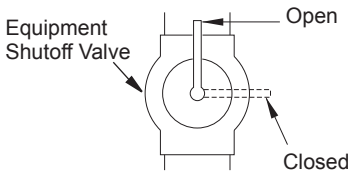

Figure 12 - Equipment Shutoff Valve
1. Close equipment shutoff valve (see Figure 12).
1. Open equipment shutoff valve (see Figure 12, page 14).